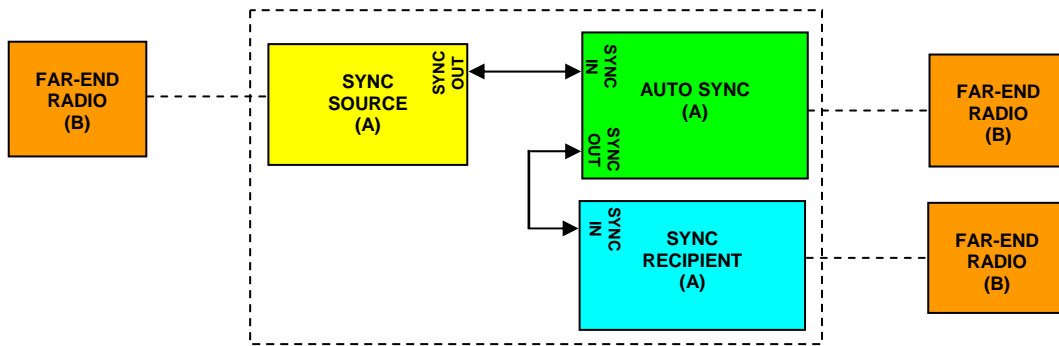

Figure 5 Collocated radios, one in AUTO SYNC mode to provide redundancy
In Figure 5, there are three collocated radios. In this configuration it may be desirable to make one radio a *secondary* sync source using AUTO SYNC. This provides redundancy if the primary sync source radio (A) loses power or experiences any other failure.